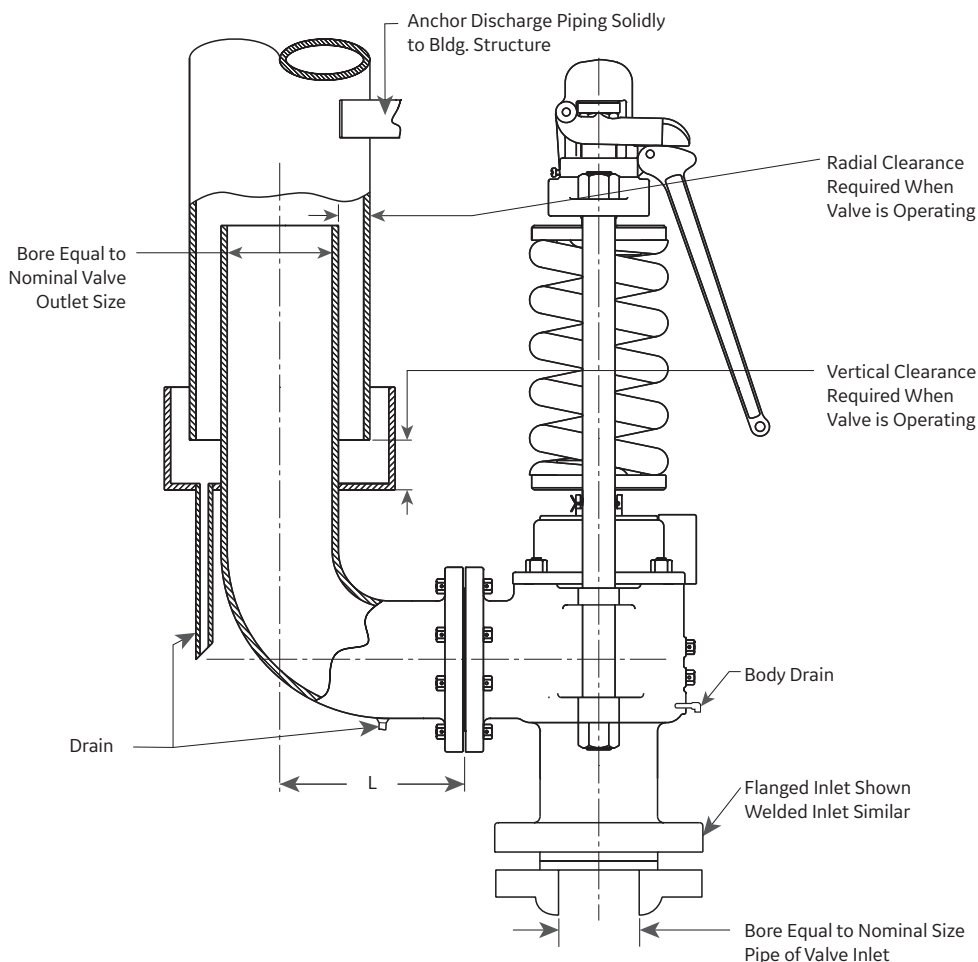

Figure 9: Recommended Installation for Discharge and Vent Piping
1. The valve should be installed to meet all the requirements of Figure 9 and Table 1.